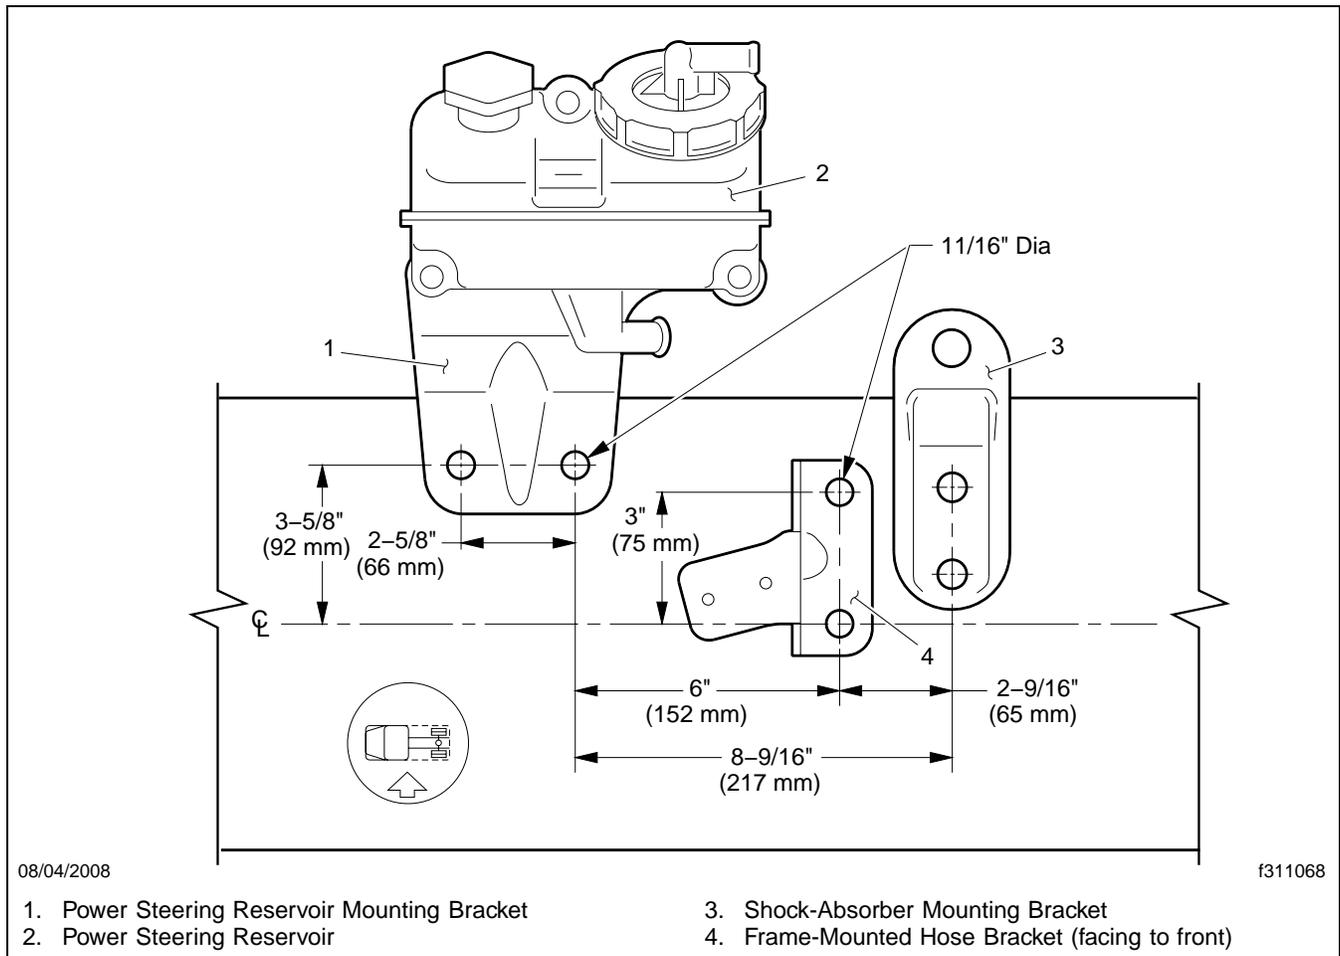

Fig. 1, Drilling and Mounting Locations
13. Mark the layout of the holes on the frame, using the drilling diagram. See **Fig. 1**.
24. Install the frame-mounted hose bracket, as shown in **Fig. 1**.